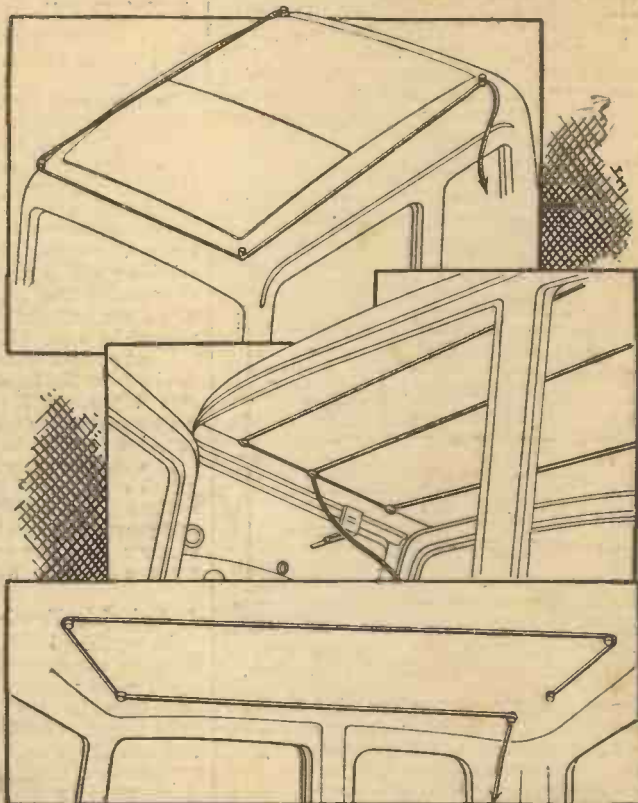

Fig. 4.—Some suitable and inconspicuous positions for the aerial.
The alternatives to a frame aerial are: (1) a wire or wires across or around the roof of the car either inside or outside (in this case the earth terminal of the receiver is connected to the chassis of the car) or (2) a portable aerial (Fig. 4). As a further alternative to (1) one of the several adhesive aerials could be used, the aerial being stuck on the roof or round the sides of the car.